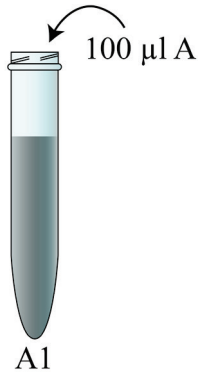

Fig. 10
9. Aseptically[^] use a P200 micropipette and a new tip to transfer 100 μ l microbial broth culture from tube “A” to tube “A1” (Fig. 10). Hence, the mixture in tube “A1” is a 100-fold dilution of the microbial broth culture in tube “A”. Mix tube “A1” by turning it upside down three times.